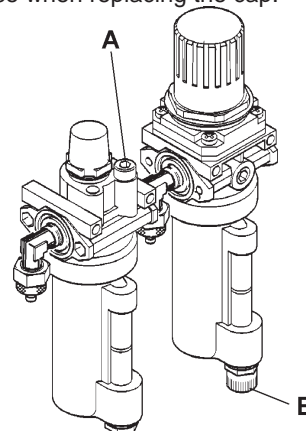

Fig.29
**H.** Discharge water from air filter every day!! (Do this by turning the knob "B" clockwise and upward. Water will automatically be discharged.) (see 'B' at Fig.29).